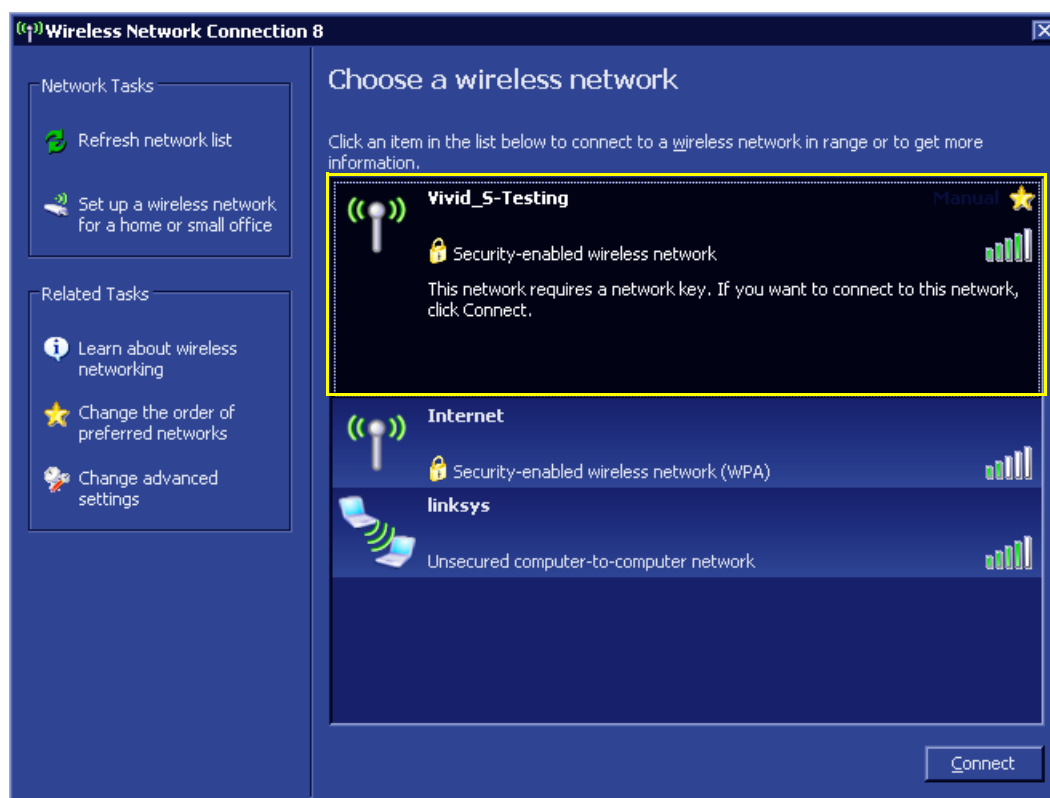

Figure 3-102 Wireless Network Connection 8
- 3.) From the Wireless Network Connection screen navigate to **Wireless Network Connection 8** and double-click to open the *Wireless Network Connection 8* screen - see Figure 3-102.
(In this example - Figure 3-102 - the wireless network connection is **Vivid_S-Testing**.)